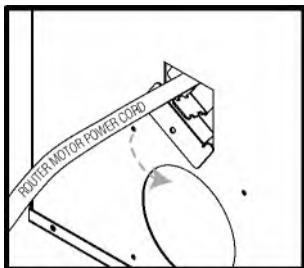

FIGURE D-2
3. Tilt the Strain Relief Bracket back down to a level position with the square hole. **FIGURE D-2.**